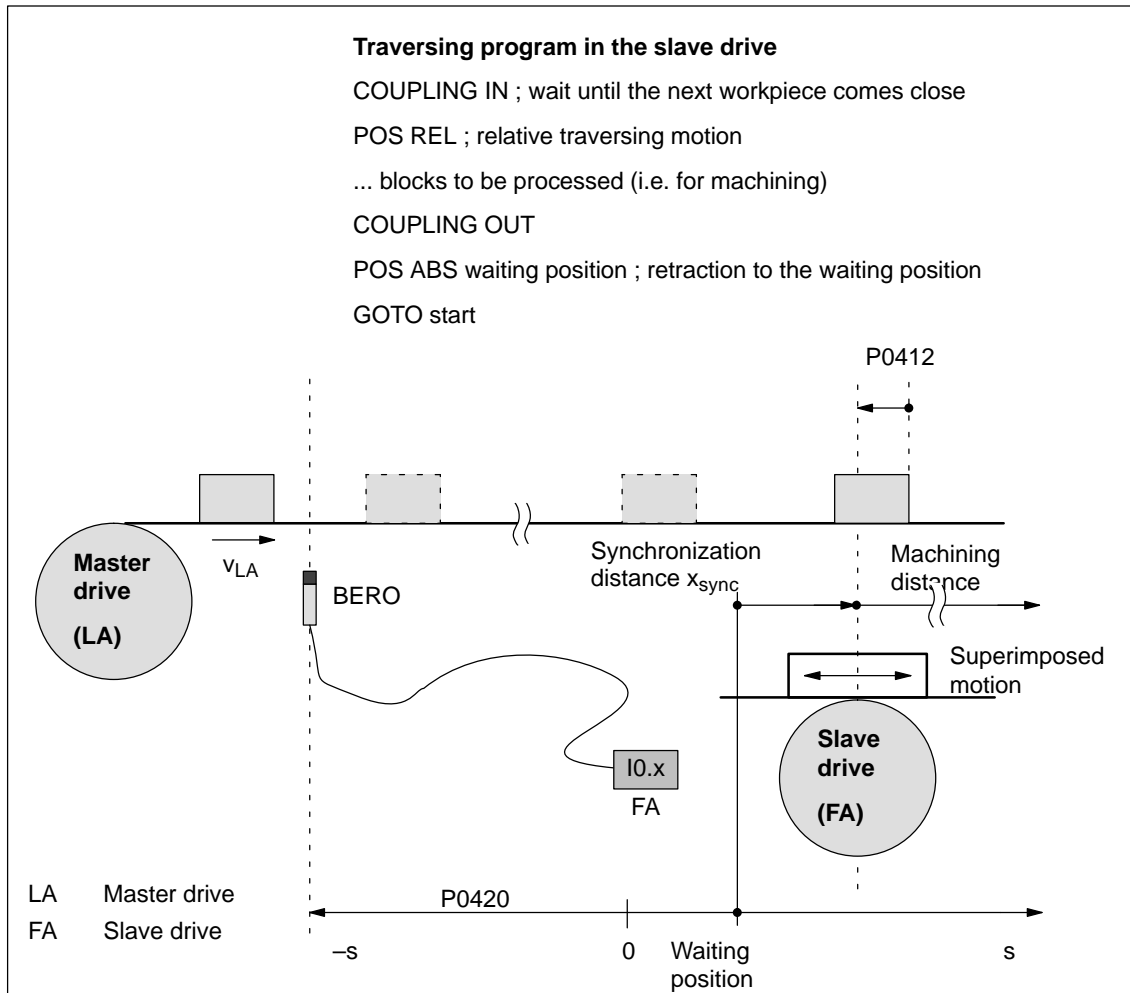

Fig. 6-36 Application example: Coupling via an input terminal with queue functionality
**Application example, queue functionality (refer to Fig. 6-36)**